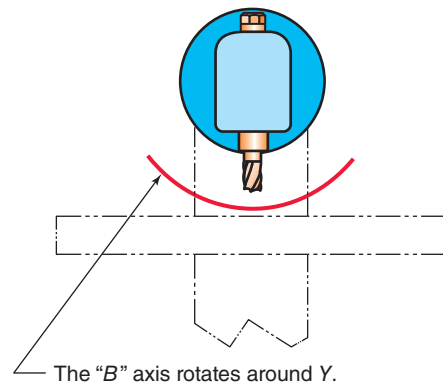

Figure 12-53 The B rotates around the Y.
- C. The rotary axis is an A axis because it rotates around a line parallel to the X axis (Fig. 12-53).